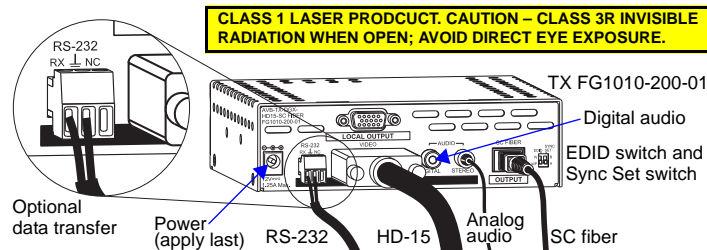

FIG. 4 Attach HD-15, audio, and SC fiber cables (RS-232 optional)
2. **DGX HD-15 TX** – Attach the HD-15 cable from the source to the Video Input (HD-15) receptacle on the rear of the TX (FIG. 4). For an optional video out, attach an HD-15 cable connector to the Local Output.